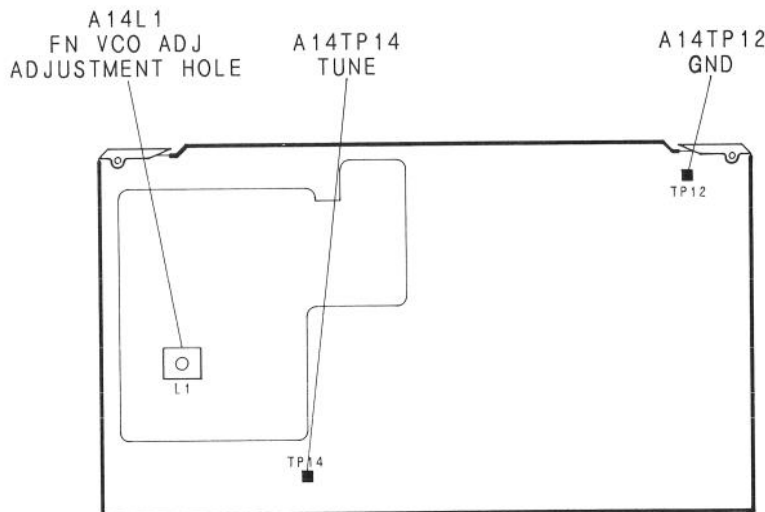

Figure 6. A14 Adjustment Location Diagram.
6. If necessary, use a nonmetallic tool to adjust A14L1 (see Figure 6) for a reading of -3.31 ± 0.07 Vdc. The correct adjustment positions the trace on the screen.
12. Connect DVM HI (center conductor) to A14TP14 (TUNE). Connect DVM LO (shield) to A14TP12 (GND). Refer to Figure 6 as required. The casting need not be removed for measurement or adjustment.